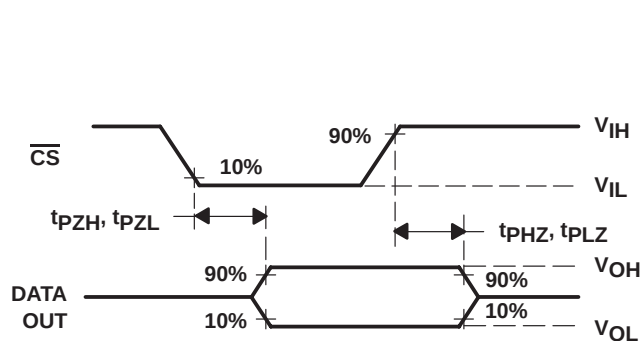

Figure 8. DATA OUT to Hi-Z Voltage Waveforms
10. I/O CLK period = $1/(I/O\text{ CLK frequency})$ (see Figure 8).